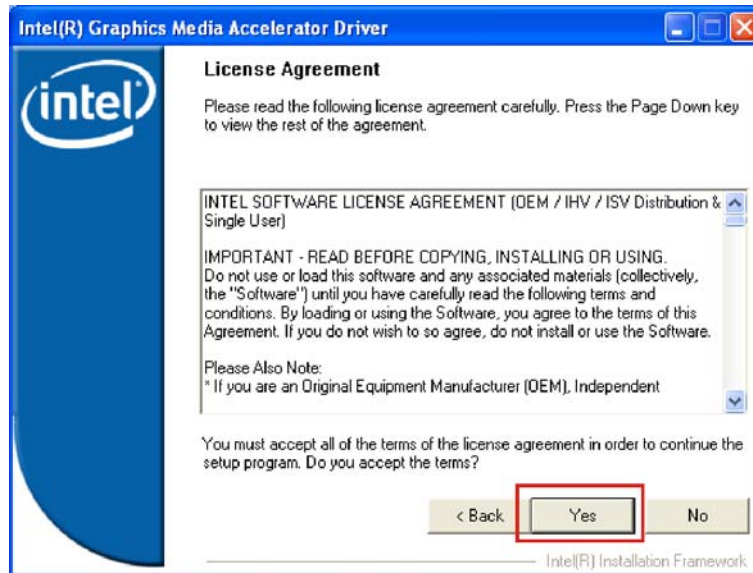

Figure 6-10: Graphics License Agreement
Step 6: The License Agreement windows appears (Figure 6-10).
Step 7: Click Yes to accept the license agreement and continue with the Intel® Graphics Media Driver Installation (Figure 6-10).